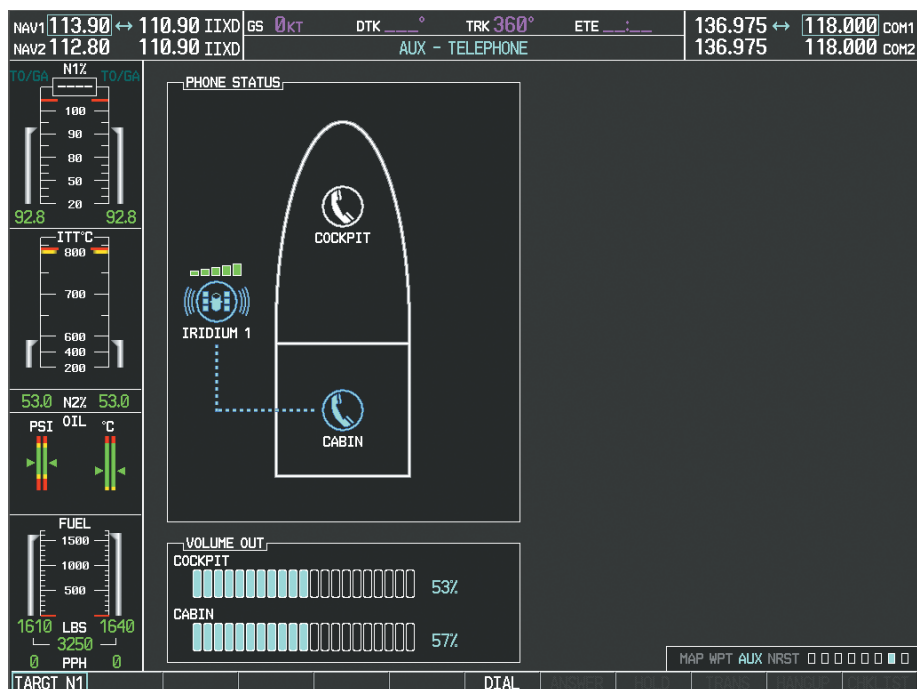

Figure 8-89 Call Transfer to an External Phone
- 5) Press the **ENT** Key again to place the call as shown in Figure 8-89.